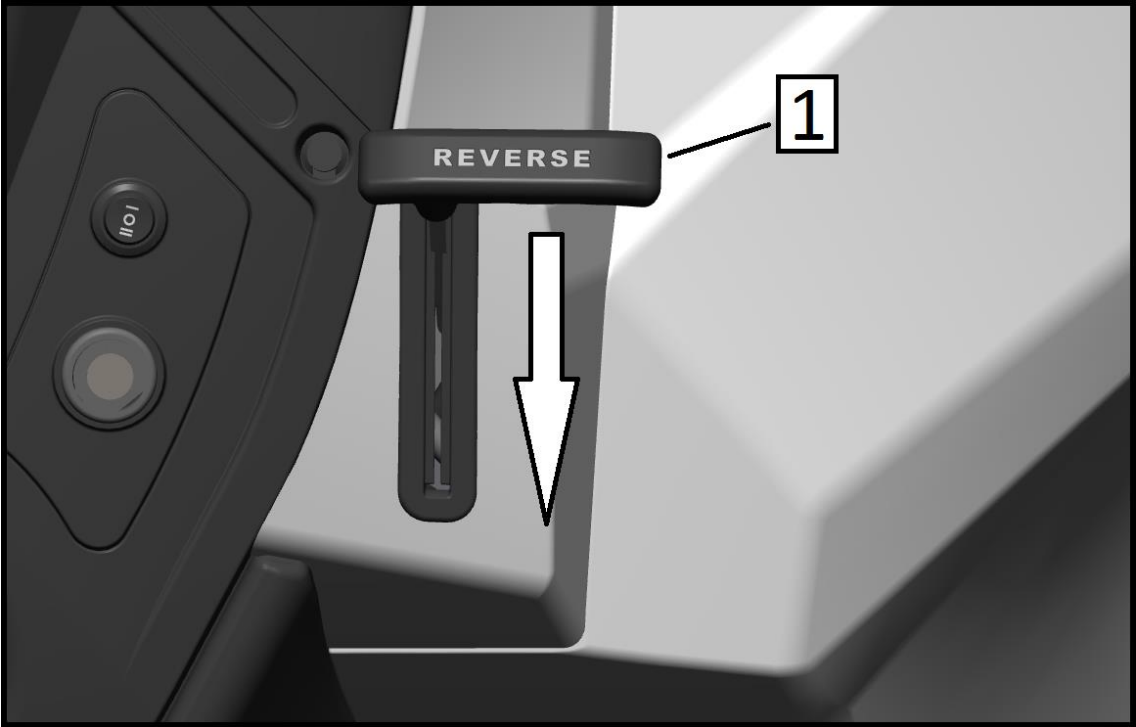

Fig. 1
- 3. After the gear shift lever (position 1, Figure 1) is smoothly transferred to the brake position, the engine should idle when shifting. Wait for the alarm signal to turn on before pressing the throttle lever.**